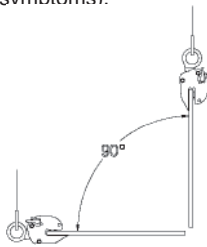

Figure 9
6. The “**VLX**” and “**AVLX**” models may be used to **lift material from a vertical position or from horizontal to vertical to horizontal through the same 90° arc only (Fig. 9)**.